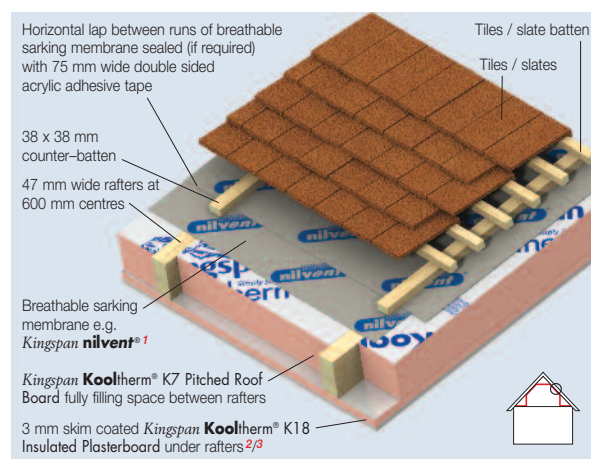

Figure 1a
NB When calculating U-values to BS / I.S. EN ISO 6946: 2007, the type of mechanical fixing used may change the thickness of insulation required. The effect of fixings for Kingspan **Kooltherm**® K18 Insulated Plasterboard in the U-value calculations for Figures 1a, 1b, 1c, 1d, 2a, 2b, 4a & 4c is insignificant as the insulation layer penetrated is not the main insulation layer. The U-value calculations for Figures 3a & 3b assume that over rafter layers of insulation are fixed using stainless steel fixings with a cross sectional area 7.45 mm², with 3.7 fasteners per m² (insulant thickness 0–40 mm), 6.2 per m² (insulant thickness 41–60 mm), 8.3 per m² (insulant thickness 61–80 mm) and 10.0 per m² (insulant thickness > 80 mm). Please contact the Kingspan Insulation Technical Service Department (see rear cover) for project calculations.
- ¹ In Figures 1a & 3a the breathable sarking membrane can be placed over the counter-battens, draped to provide for drainage and overlain with tile / slate battens. This will yield a marginally better U-value but it will be more difficult to seal the breathable sarking membrane effectively.